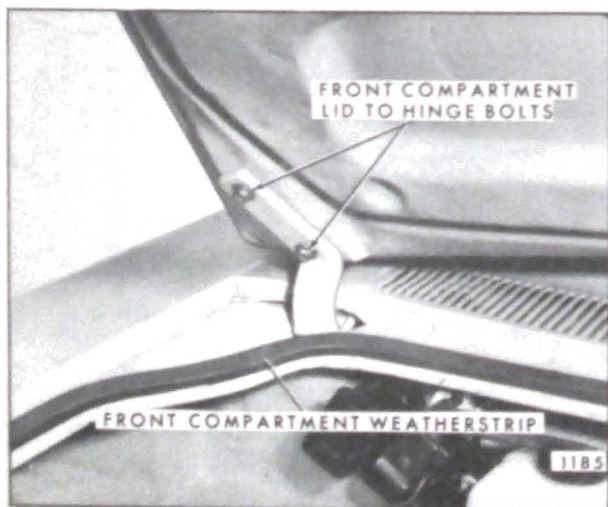

Fig. 5-17—Front Compartment Weatherstrip and Front Compartment Lid Attaching Bolts
With the aid of a helper, remove hinge to lid attaching bolts from each hinge and remove lid. See Fig. 5-17.
- a. To raise rear edge of lid at hinge area, place shim between hinge strap and lid inner panel at rear attaching bolt (Fig. 5-17).
- b. To lower rear edge of lid at hinge area, place shim between hinge strap and lid inner panel at front attaching bolt (Fig. 5-17).